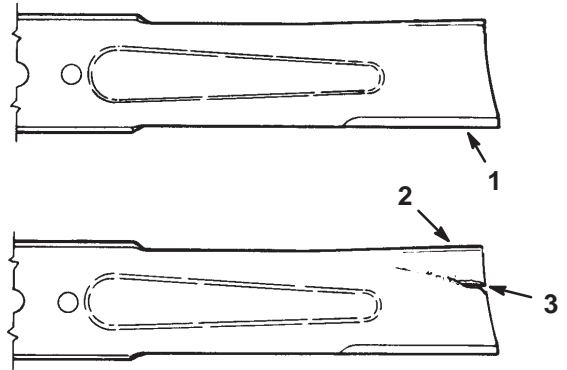

Figure 42
1. Inspect the cutting edges (Fig. 42). If the edges are not sharp or have nicks, remove and sharpen the blades. Refer to Sharpening the Blades on page 32.
2. Inspect the blades, especially the curved area (Fig. 42). If you notice any damage, wear, or a slot forming in this area (item 3 in Fig. 42), immediately install a new blade.